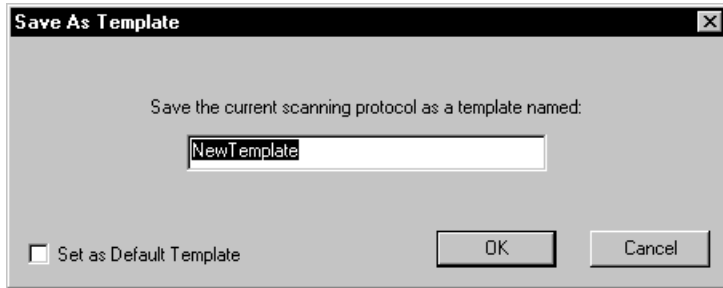

Figure 6-8. The Save As Template window for saving a template.
2. Choose **Save As Template** from the Templates menu. The Save As Template window appears (figure 6-8).